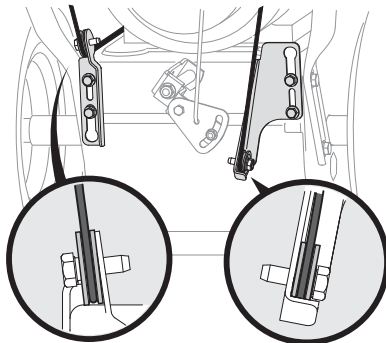

Figure 2-3
- Observe lower rear area of equipment to be sure both cables (if equipped) are aligned and seated properly in roller guides. See Figure 2-3.